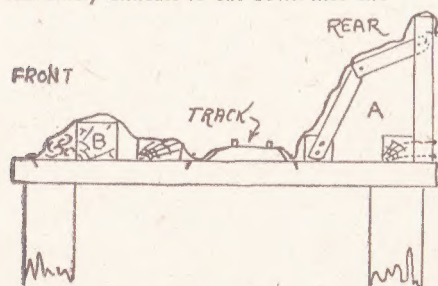

Fig. 1—Cross section of single track layout
In Fig. 1 is shown the cross section through a single-track line running in a cutting. It will be seen that by building a rough framework at (A), and the laying of long pieces of 2ins. by 1in., and 2ins. by 2ins. (seen in end section), and after-